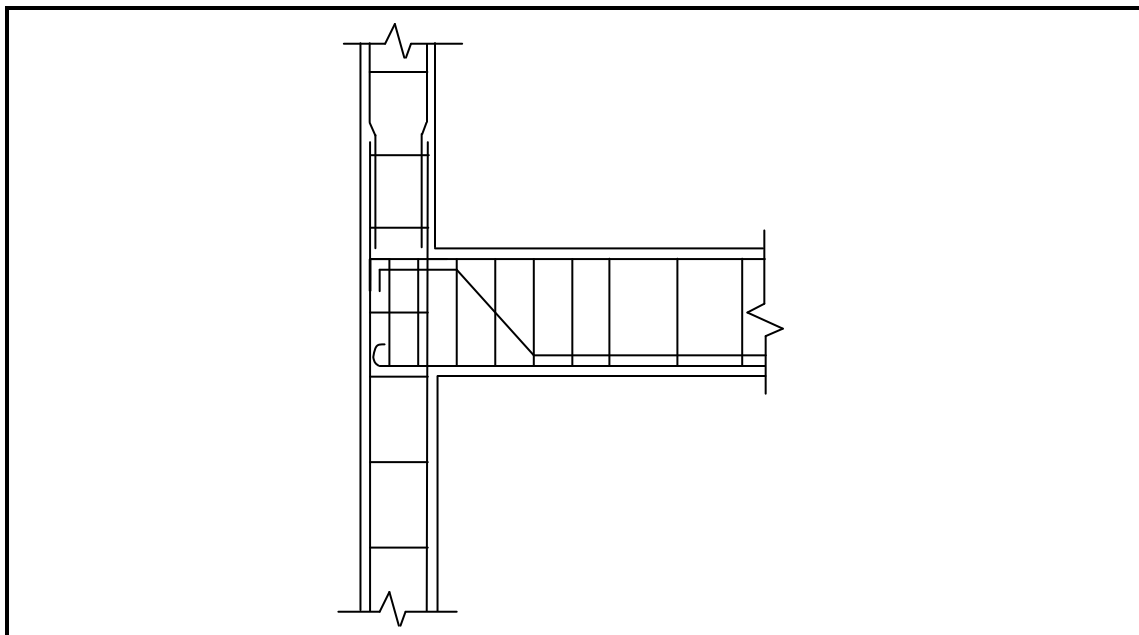

FIGURE 2.3
- 2.3 FIGURE 2.3 below shows a construction of the reinforcement of a beam and a column.